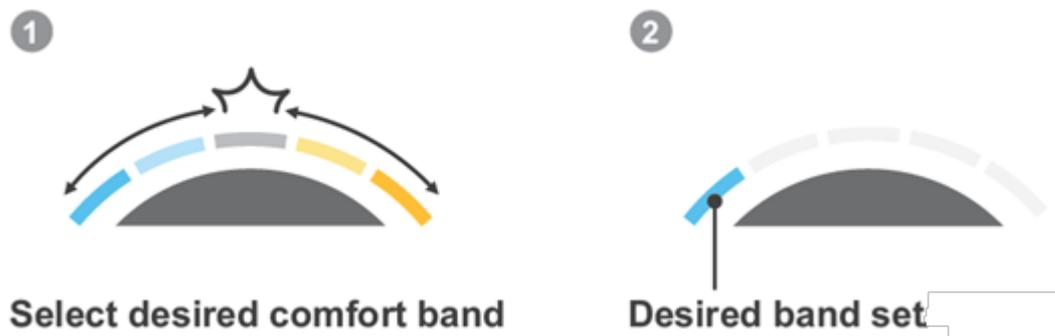

Figure 5: Selecting the band
- 1) As you start to rotate the dial all the LEDs will glow at once and the LED of the currently set band will start flashing. Rotate (on either side) to select the new band as shown in example Figure 5.